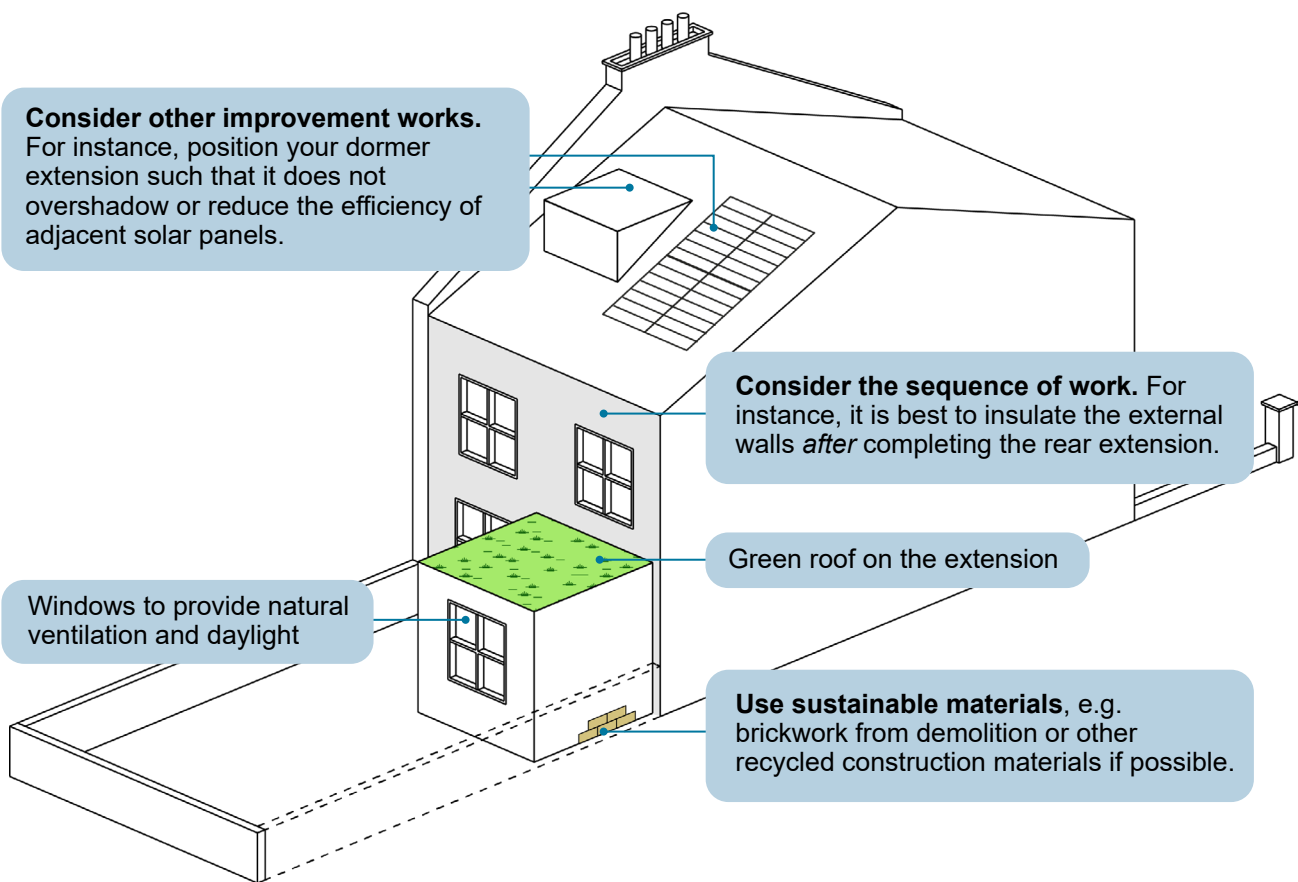

Figure 19: Whole building approach for extensions
**Figure 19** below demonstrates a Whole Building Approach to extending your home. The approach shows which parts of your home to consider first and how to think about the design and construction of your extension. This can also help make your home more resilient to the effects of a changing climate.